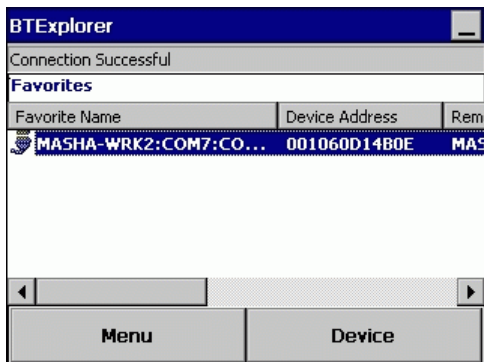

Figure 2-115 New Connection Wizard, Favorites Screen
2. Select *BTE Explorer*. If a previous connection was established, the Favorites window displays (see Figure 2-115 on page 2-88).
- On the *Favorites* window (Figure 2-115), use the keypad and select *Device > Settings > Services*.
Open the *BTE Explorer* application to display the *Favorites* window (Figure 2-115).
On the *Favorites* window (Figure 2-115), use the keypad and select *Device > Settings > Device Info*.
On the *Favorites* window (Figure 2-115), use the keypad and select *Device > Settings > Security*.
On the *Favorites* window (Figure 2-115), use the keypad and select *Device > Settings > Discovery*.
On the *Favorites* window (Figure 2-115), use the keypad and select *Device > Settings > Virtual COM Port*.
On the *Favorites* window (Figure 2-115), use the keypad and select *Device > Settings > Profiles*.